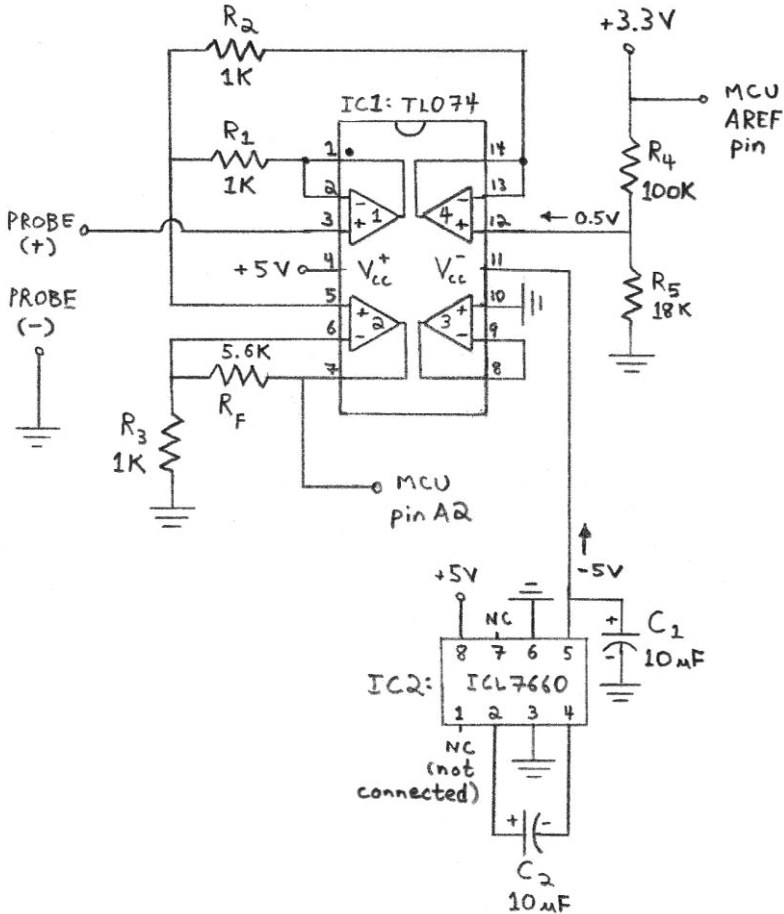

Figure 7-38. Circuit diagram for Activity 7-2 (pH meter).
- 1) Build the pH meter circuit in Figure 7-38.